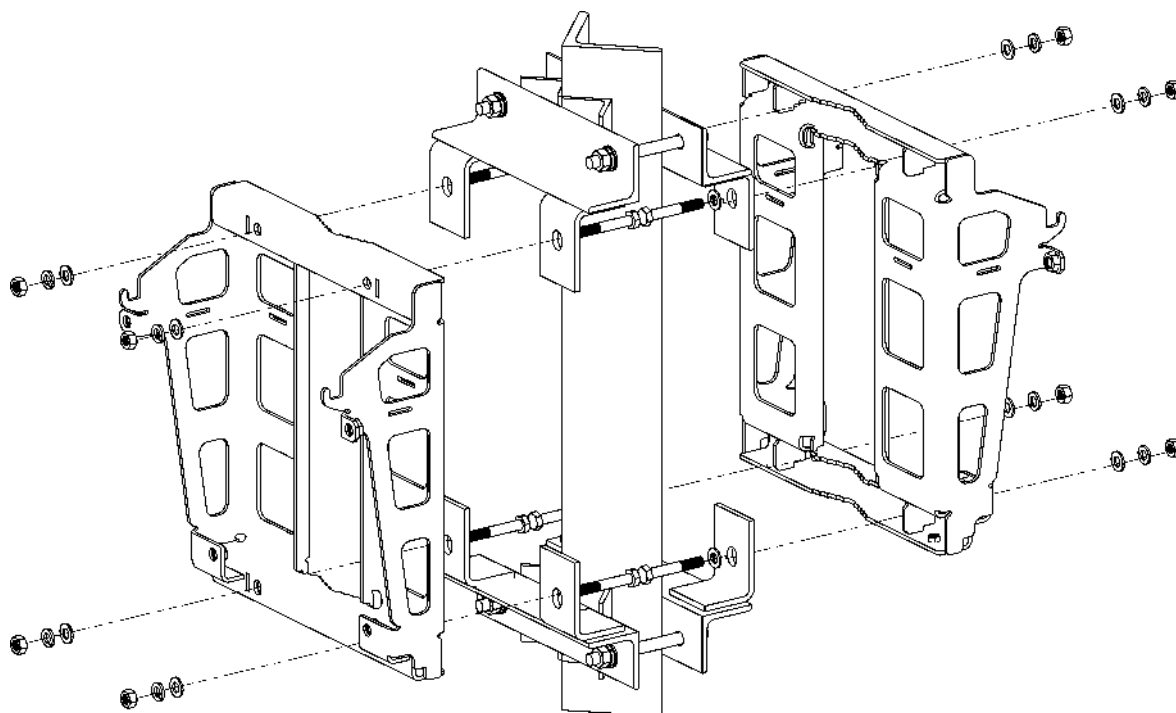

Figure 12: Mounting the Carriages on the L-shape Mast
- 3 Thread the four M12 threaded rods through one carriage and bracket, and tighten using the supplied washers, spring washers and nuts. Apply torque of 53 [N*m] (465 [lbs*in]). Repeat for the second carriage (Figure 12).